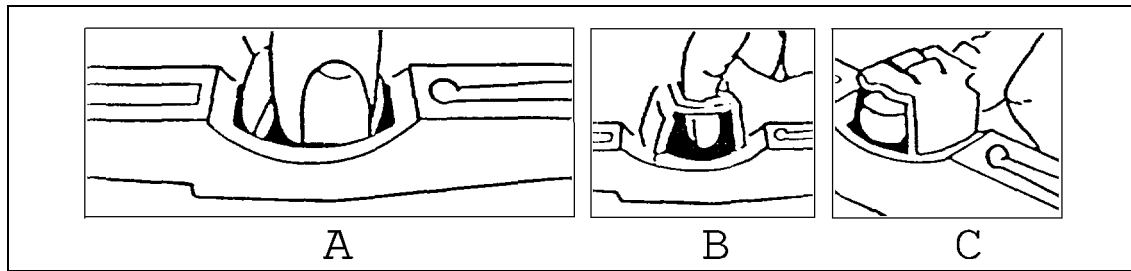

Figure 4.5.4
1. See how to hold the tension tester and choose one of the ways a, b, or c as shown in Figure 4.5.4.
3. Position the tester loosely on the belt to be measured and push slowly with *one* finger in the above way (Fig. 4.5.4, A, B, C) on the pressure surface.